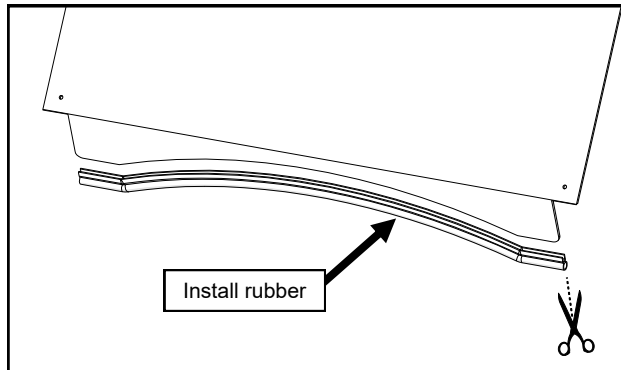

Fig. 4.1 (apply and cut rubber - windshield)
**4.1** Per figure 4.1, install supplied 5/8" bulb rubber onto the bottom of windshield. Cut excess rubber as needed.